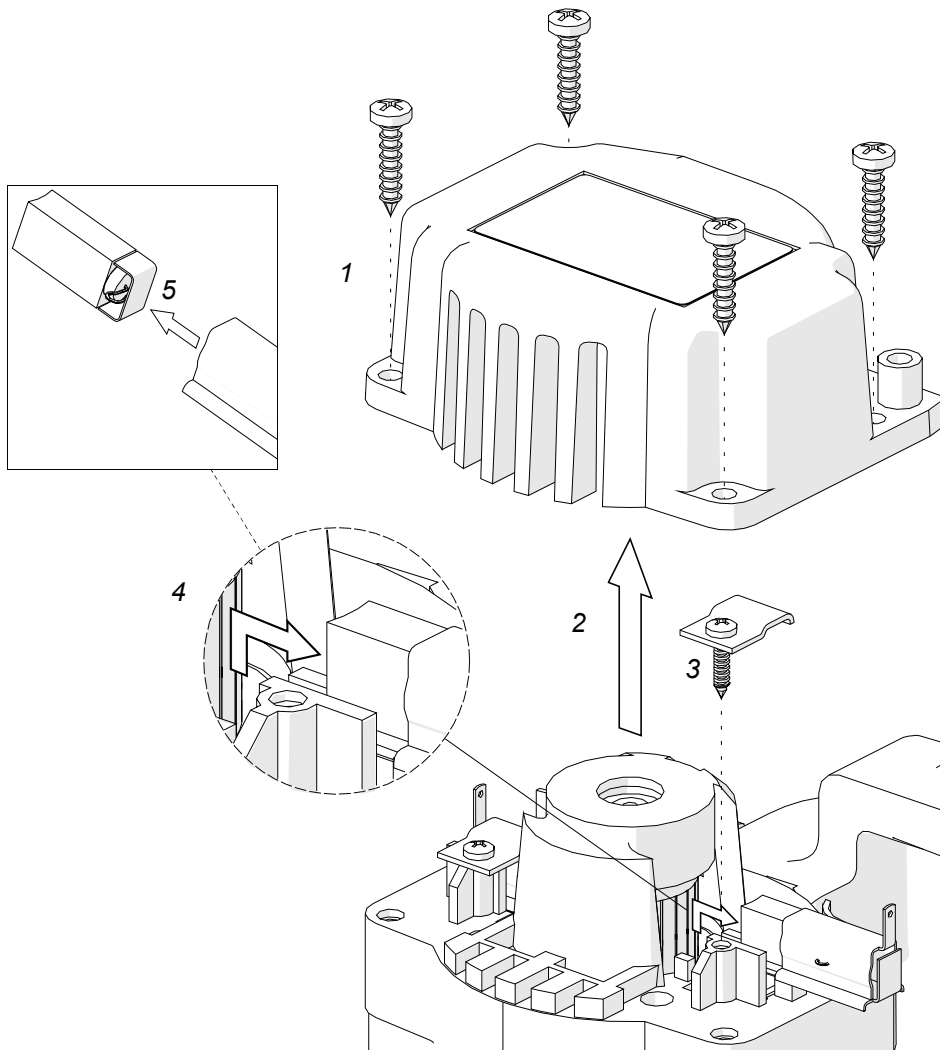

Figure 9. Replacing the brushes
Check the condition of the carbon brushes every 100 operational hours. If the length of the brushes is less than 5 mm (0.2"), replace them with new ones. To do this, unplug the power cord from the power outlet, and unscrew four mounting screws (1), (Figure 9) to remove the motor cover (2). Then, unscrew the pressing plate (3), remove the brush holder (4) and the brush (5). Proceed as described also for the second brush located at the opposite side of the motor. To mount brushes, proceed in reverse order. After the replacement, run the motor without load for 20 minutes.